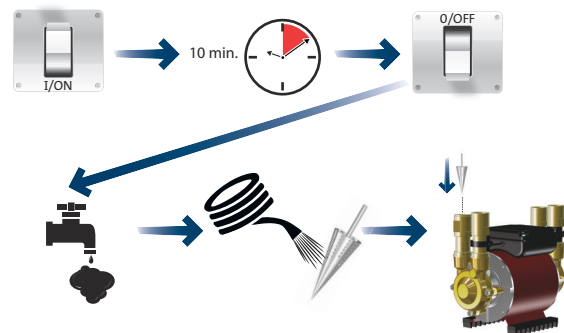

Fig. 29 Cleaning the suction strainer
5. Switch on the power supply, run the pump for a few minutes, switch off, drain down and clean the inlet strainers. See fig. 29.